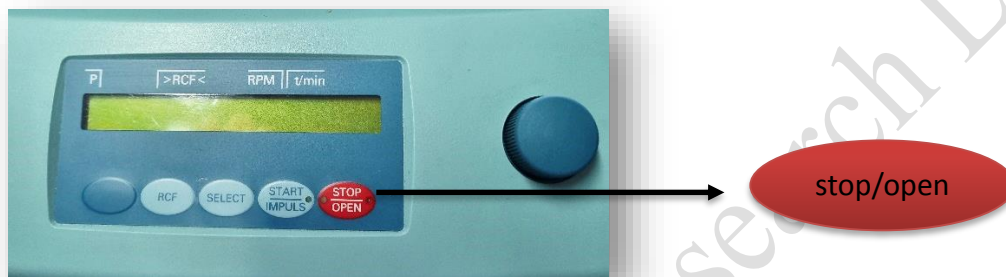

Figure 1. Schematic image of the centrifuge screen
- When the device door is opened by pressing the **stop/open** key, the light on the left side of the key also turns off. **(Figure. 1)**